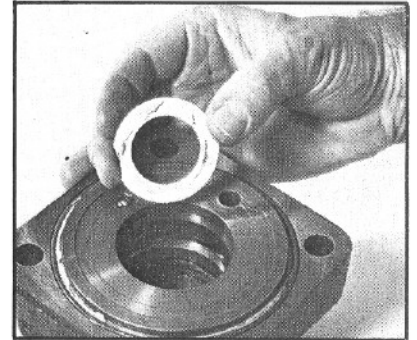

Figure 118
20. Apply a generous amount of clean grease to one thrust washer (11). Place the valve housing exterior side down on a flat surface and place the thrust washer into the valve housing (9), making sure to center the washer (FIG. 118).